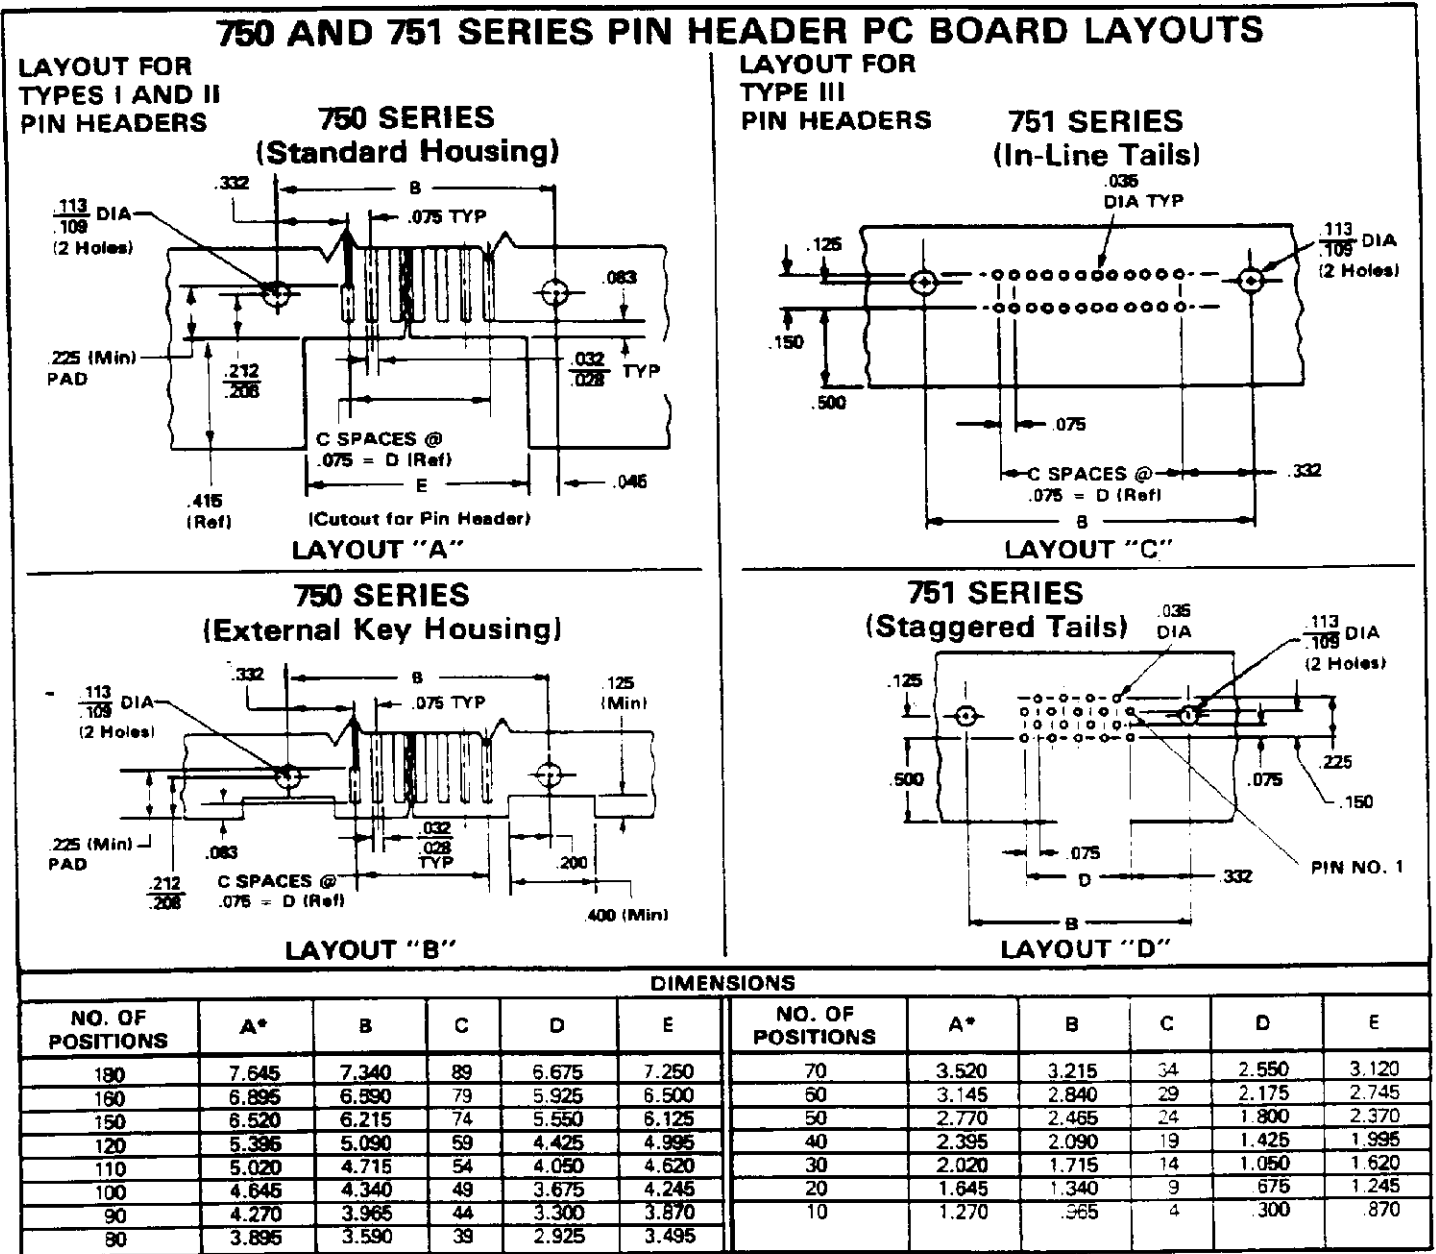

Fig. 6
2. Make a layout on the pc board for the pin header. Use the dimensions shown in Figure 6, Layout "A" or "B," for 750 Series pin headers, or refer to Figure 7, Layout "A" or "B," for 1000 Series pin headers.
2. Make a layout on the pc board for the pin header. Use the dimensions shown in Figure 6, Layout "C" or "D," for 751 Series pin headers. Refer to Figure 7, Layout "C," for 1000 and 1001 Series two-row pin headers, or see Figure 7, Layout "D," for 1001 Series three-row pin headers.